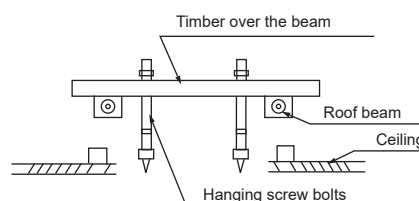

Fig. 5-3
- Refer to Fig. 5-3 and Fig. 5-4 for the hanging screw bolts distance.